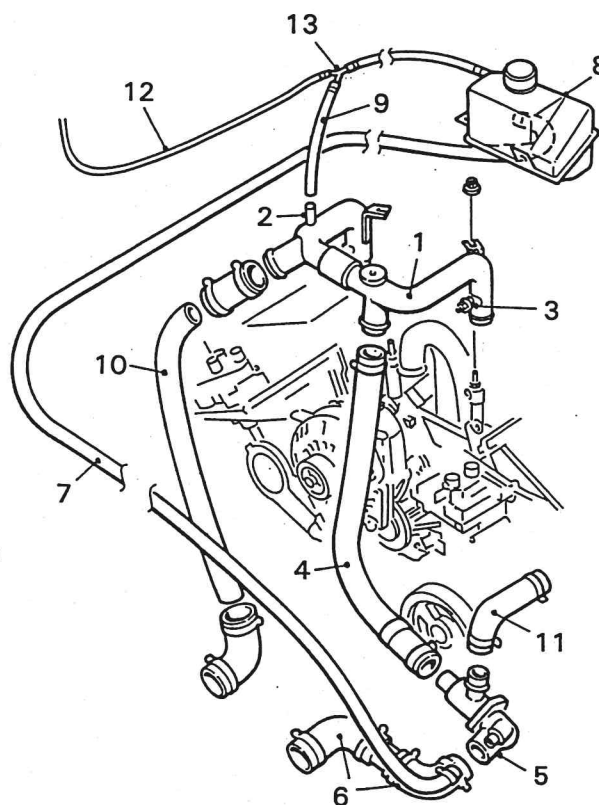

Fig. 4 Front of Engine - Water System Piping
1. Refer to Fig. 4. At the upper front of the engine the water bypass tube (1) connects the water jackets on each side of the engine. It passes across the front of the alternator. Disconnect this tube from the engine in accordance with the instructions provided in the Ford Mustang Engine Manual.
2. Drill a 10mm hole in the left-hand-side pipe of the bypass tube and weld-in a metal tube (2) of 10mm outside diameter and 50mm in length at an angle of approximately 30 deg. to the horizontal.
3. On the right-hand side pipe of the water bypass tube remove and discard the temperature sender. Fit the adaptor and the new temperature sender (3).
5. Locate the large pipe (4) from the thermostat (5) that is to be connected to the right-hand hole in the bypass tube - cut off approximately 150mm of this pipe then connect it in place using a jubilee clip.
7. Attach the other large diameter pipe from the thermostat to the large pipe running down the left side of the tunnel (facing forwards) to the radiator. To make this connection a 90 deg. elbow (6) will be required and it is attached via a short length of rubber hose. Jubilee clips are used to secure all these connections.
8. Locate the small diameter pipe (7) in the thermostat housing. This should be attached to 19mm od pipe and routed around the engine. This pipe and connects to the coolant expansion header tank (8).
9. Connect a 10mm internal diameter pipe (9) between the additional outlet fitted to the bypass tube (Op.2) via a 'Y' piece to the header tank. This is the main engine bleed pipe. The 'Y' piece is inserted in this pipe above the top RH side of the engine to connect-in the small radiator expansion tube to the header tank (refer to Assembly Stage 2).
11. The water pump remains untouched by modification. Refer to the Ford Mustang Engine manual if information is required on the water pump. Connect the large bore pipe (11) between the pump and the thermostat.